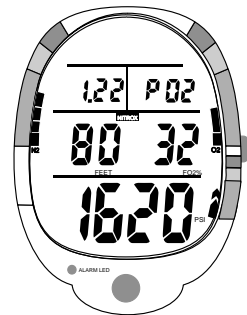

Fig. 61 - No Deco Alternate #2
**NO DECO ALTERNATE DISPLAY #2 (Fig. 61)**